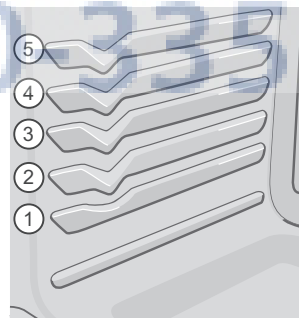

Figure 7: Rack positions
- For best results when baking cakes using two oven racks, place racks in positions 2 and 4 (See Figure 7).